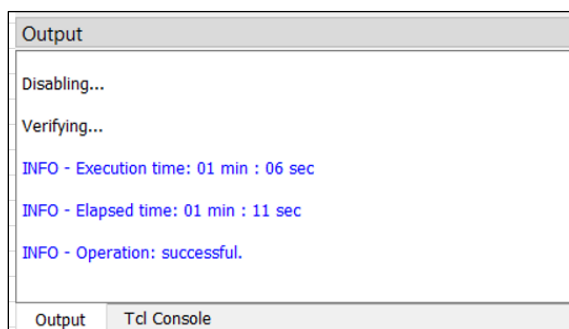

Figure 3.9. Programmer Output Window
10. Check the Output console for the status of the programming. You should see **Operation: Successful**, as shown in Figure 3.9.